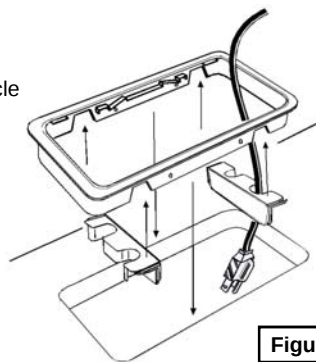

Figure 4B
- Turn the receptacles around as shown in **Figure 4B.** Route the cords through the notches and re-attach the cord receptacles by sliding them into the grommet frame.